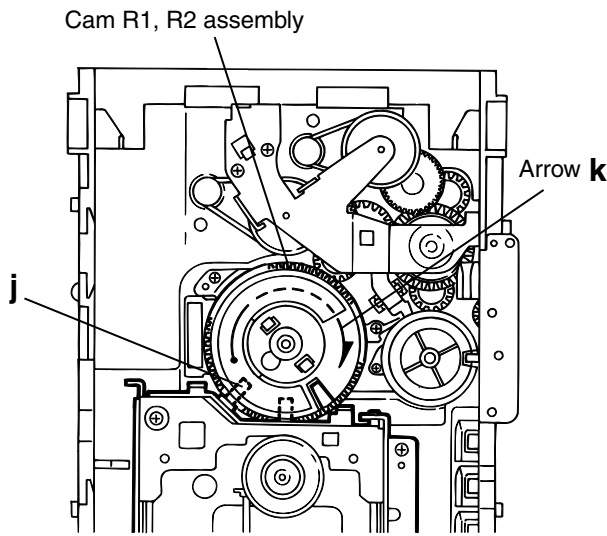

Fig.11
Removing the CD traverse mechanism (See Fig.11 and 12)
1. For dismounting only the CD traverse mechanism without removing the CD loading mechanism assembly, align the shaft "j" of the CD loading mechanism assembly to the position shown Fig.11 while turning the cam R1 and R2 assembly in the arrow direction "k" .